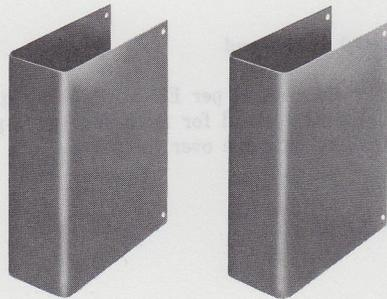

Fig. 30—Covers per ED-95023-70
6.05 The covers per ED-95023-70† (Fig. 30) are used to conceal the exposed portion of ED-95023-01 metal stands where appearance is important. Eight RHM screws are furnished with the covers.